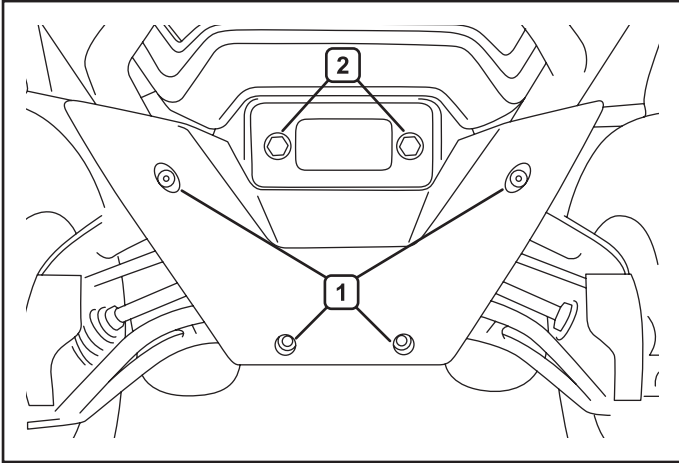

Figure 1.
1. Detach the front lower panel from your machine by removing four bolts (1). Then unfasten the fairlead hardware (2). See figure 1.